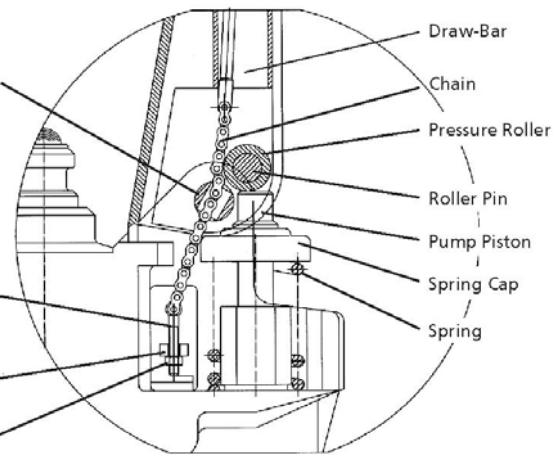
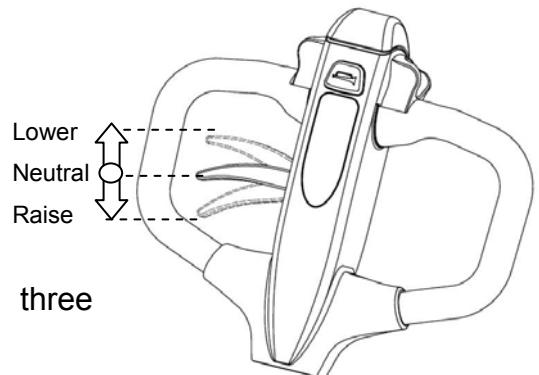

Fig. 7: Side view
Fig. 8: SPT 15 tiller
- b)** Set the control lever of the handle to the 'Lower' position, then pass the adjusting nut, adjusting bolt through the hole of the axle with your hand (fig. 7).
- d)** Set the control lever (fig. 8) of the handle to 'RAISE' position, then raise the lever plate and insert the adjusting bolt into the front slot of lever plate. Note: Keep the adjusting nut under the lever plate. (fig. 7)
The SPT 15 multifunction tiller can be regulated in three positions (fig. 8):
If necessary, you can adjust the lever according to following steps (fig. 7):